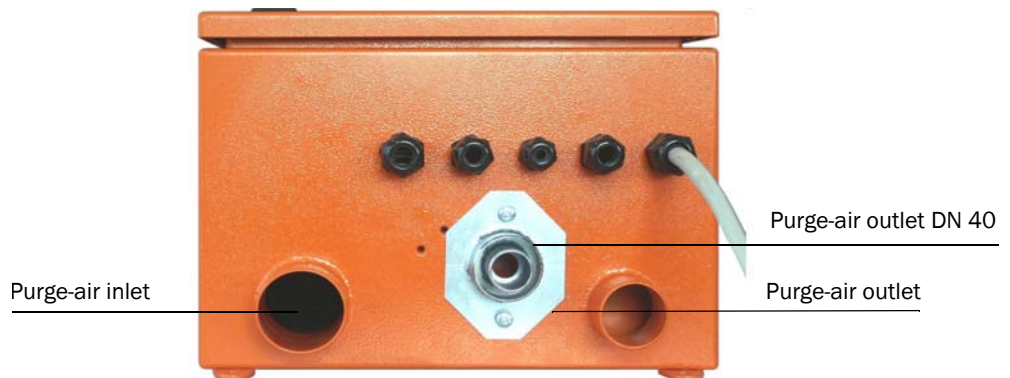

Fig. 3.19: Underside of purge-air supply in connection box
- ▶ Connect the purge-air hose DN 40 to the purge-air outlet on the underside of the connection box (see **Fig. 3.19**) and secure it with a tightening strap. The purge-air outlet in the middle must be adjusted as displayed (correct if necessary)